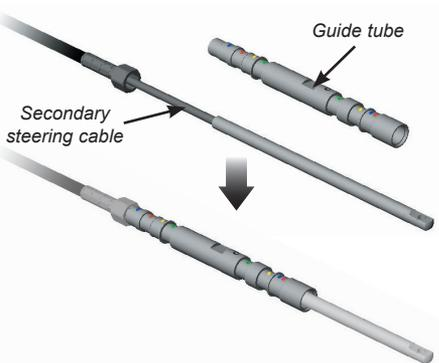

Fig B26 - Fitting the secondary steering cable to the guide tube
- ii) Insert the rod end of the secondary steering cable into the threaded end of the guide tube (Fig B26).